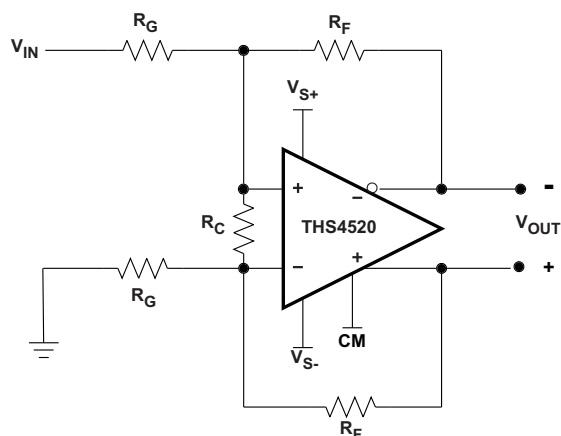

Figure 65. THS4520 with Noise Gain Compensation
Figure 65 shows a fully differential amplifier that reduces peaking at low gains. The resistor R_C compensates the THS4520 to have higher noise gain (NG), which reduces the AC response peaking (typically 3.8dB at $G = +1$ without R_C) without changing the DC forward gain. The input signal, V_{IN} , is assumed to be from a low impedance source, such as an op amp.